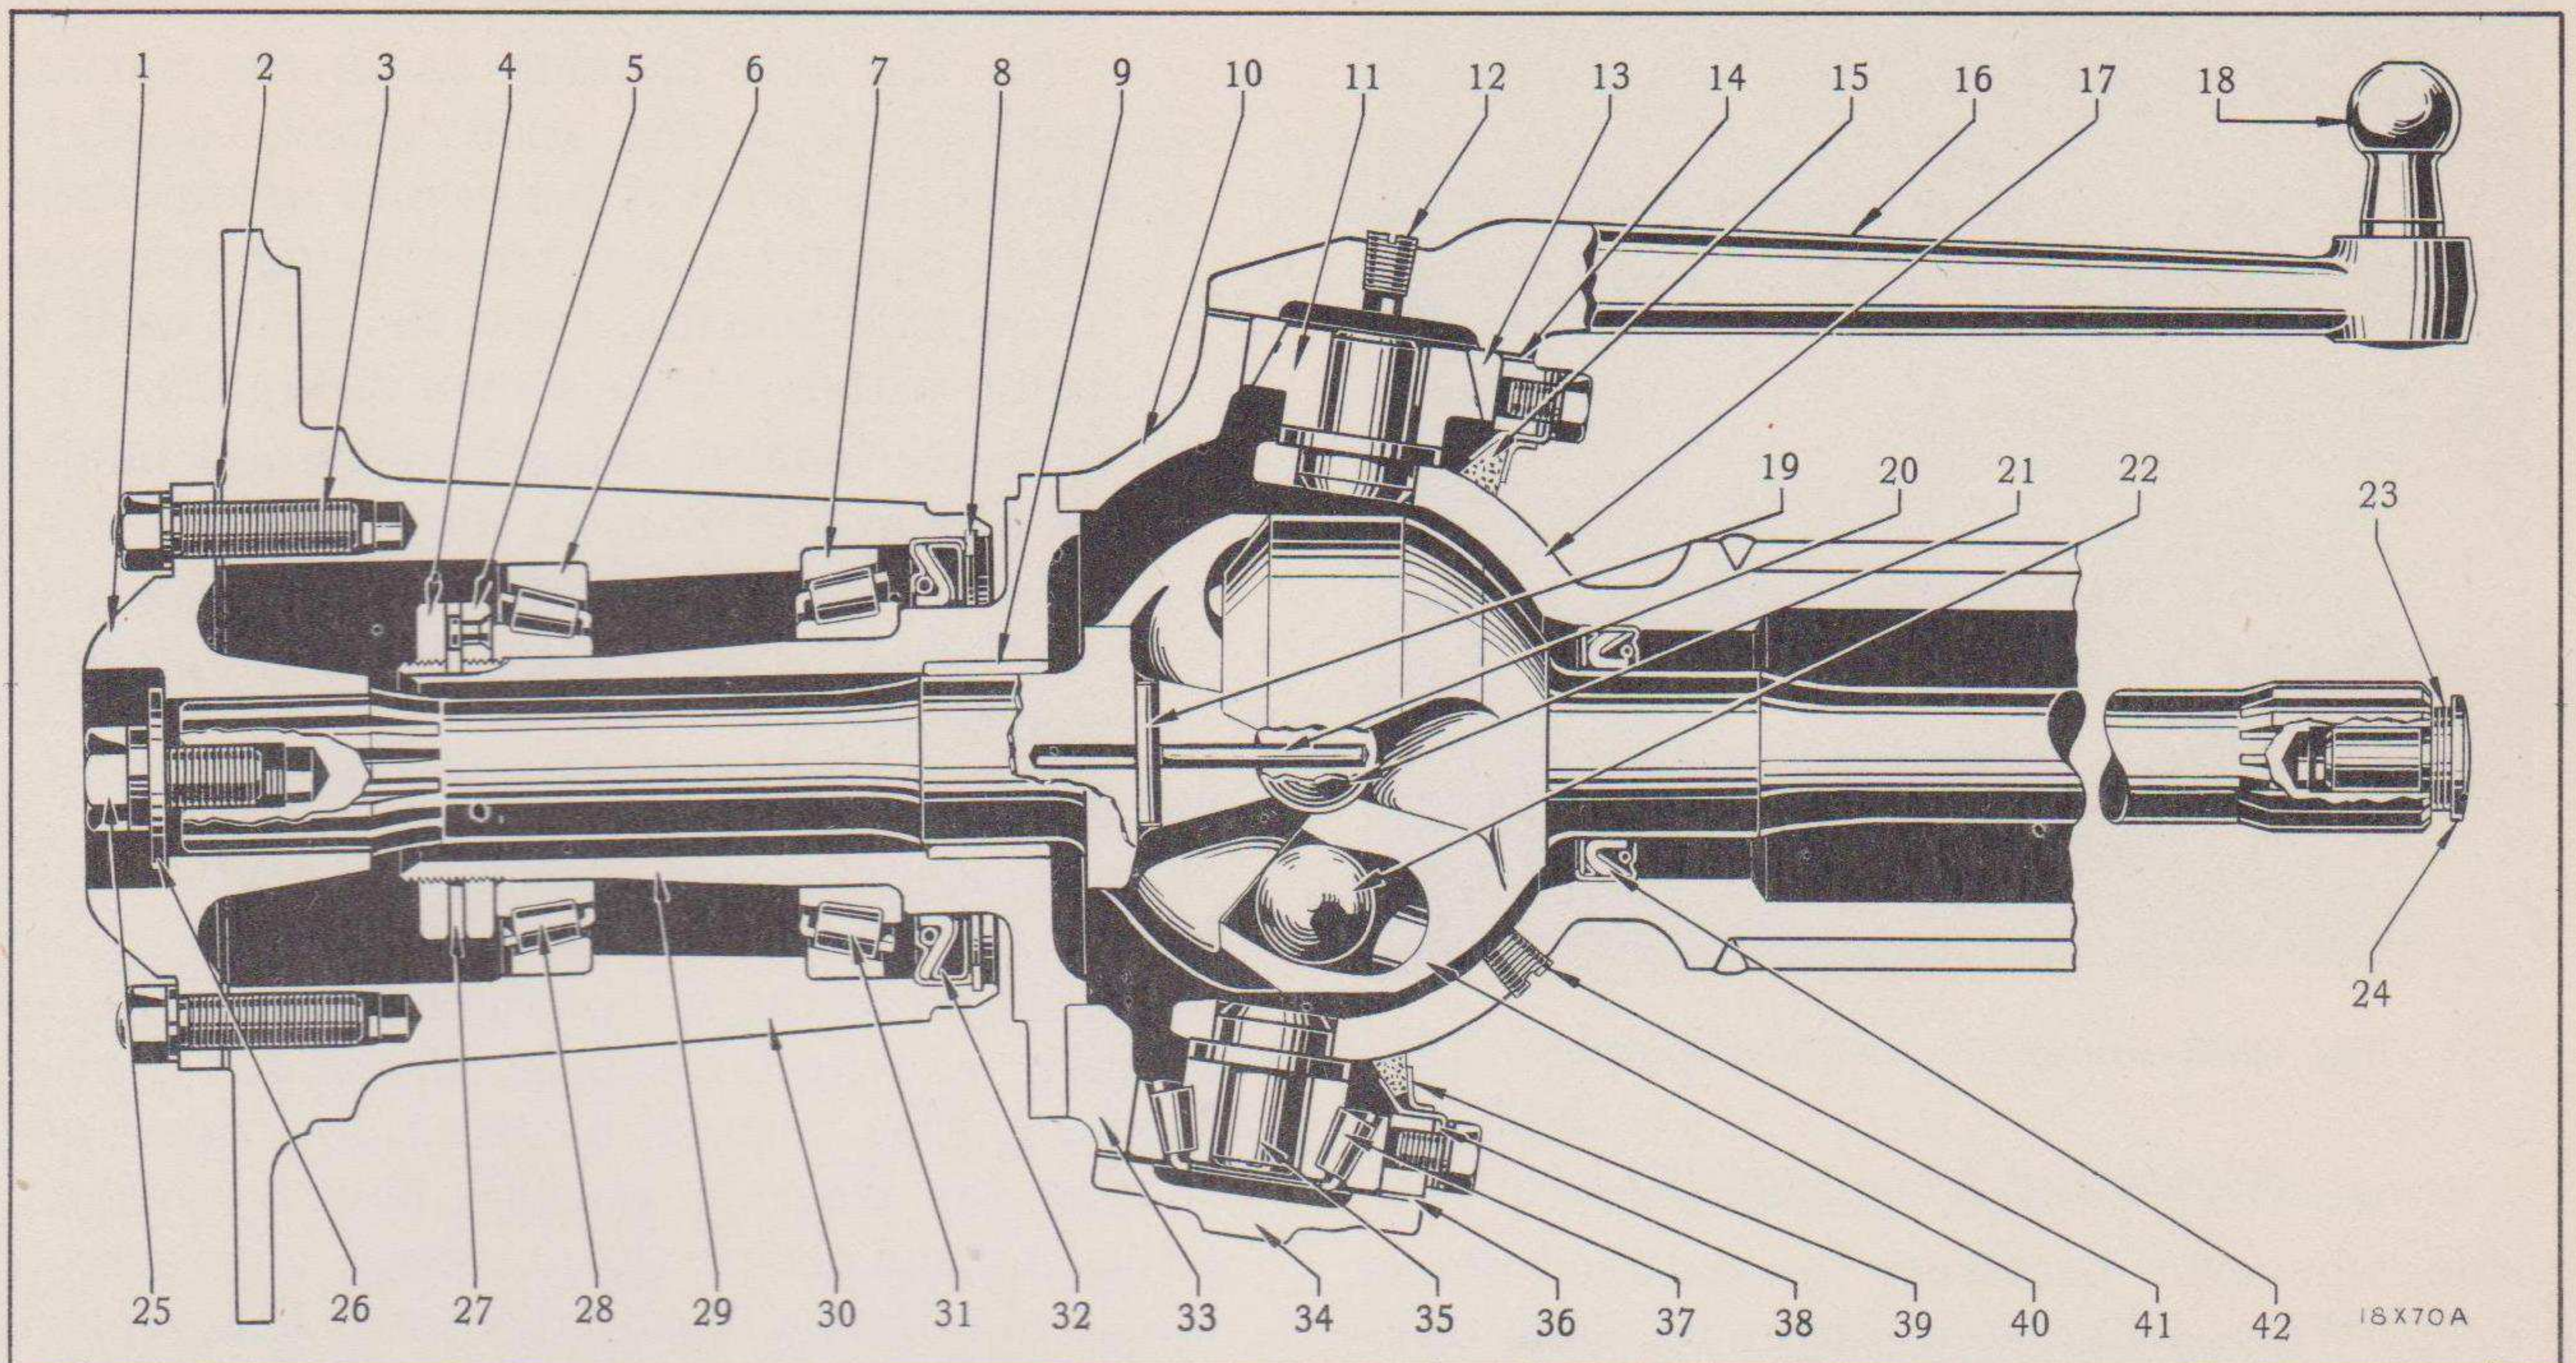

Fig. 12—Front Axle with Bendix-Weiss Universal Drive (assembled view)
- (d) Install the drive shaft screw 25, Fig. 12 in the end of the short shaft. Then firmly push the two sections of the drive assembly together. This will apply a tension on the drive balls if the balls are not too small.